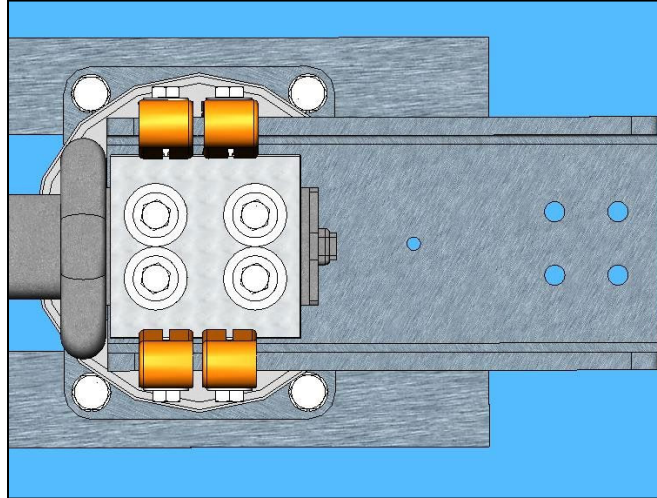
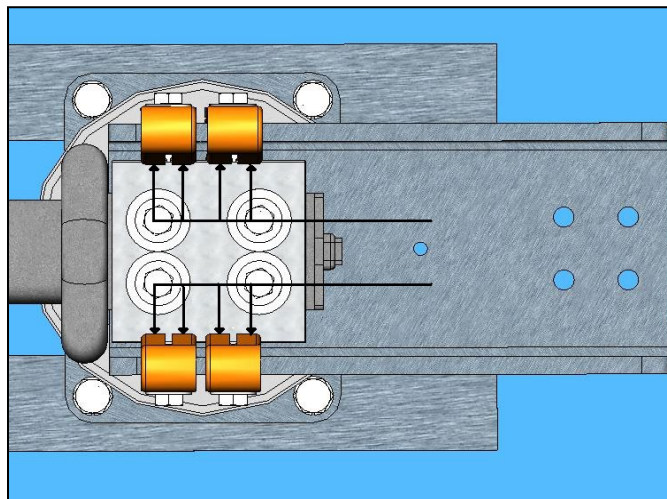

Figure 4. Contact blade centered among contact fingers.
Figure 5. Evenly Distributed Contact at All Points, On Both Sides
- 1.6.4. Mount the jaw contact assembly to the insulator and, for the moment, leave the bolts loose. Close the switch blade into the contacts, checking for alignment as shown in **Figure 4** and **Figure 5**. Usually bolt hole tolerances will be sufficient to align the contacts properly. However, the jackscrews that support the jaw insulator stack can also be used to tilt the insulator as required.
- 2.1.1. The jaw contact leaves (fingers) must be centered on the silver of the blade tip as shown in **Figure 4**. If necessary, use the jack screws that support the jaw insulator to tilt the insulator fore or aft to align these parts.
- 2.1.2. All contact leaves (fingers) must be in contact with the silver of the blade tip as shown in **Figure 5**. If necessary, shift the jaw against the bolt hole tolerances as required to achieve full contact distribution along the length of the blade tip.